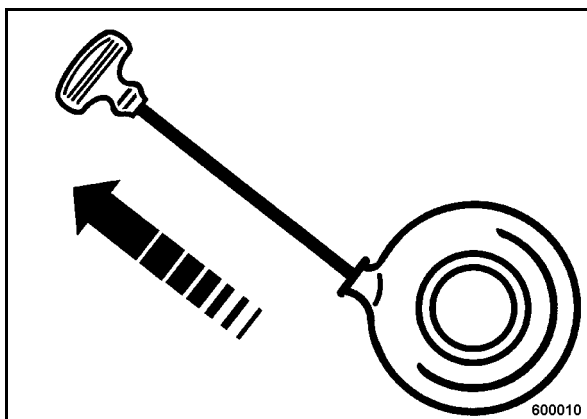

Fig. 22
- Pull the rope by the starter handle quickly and powerful as far out as possible (Fig. 22).